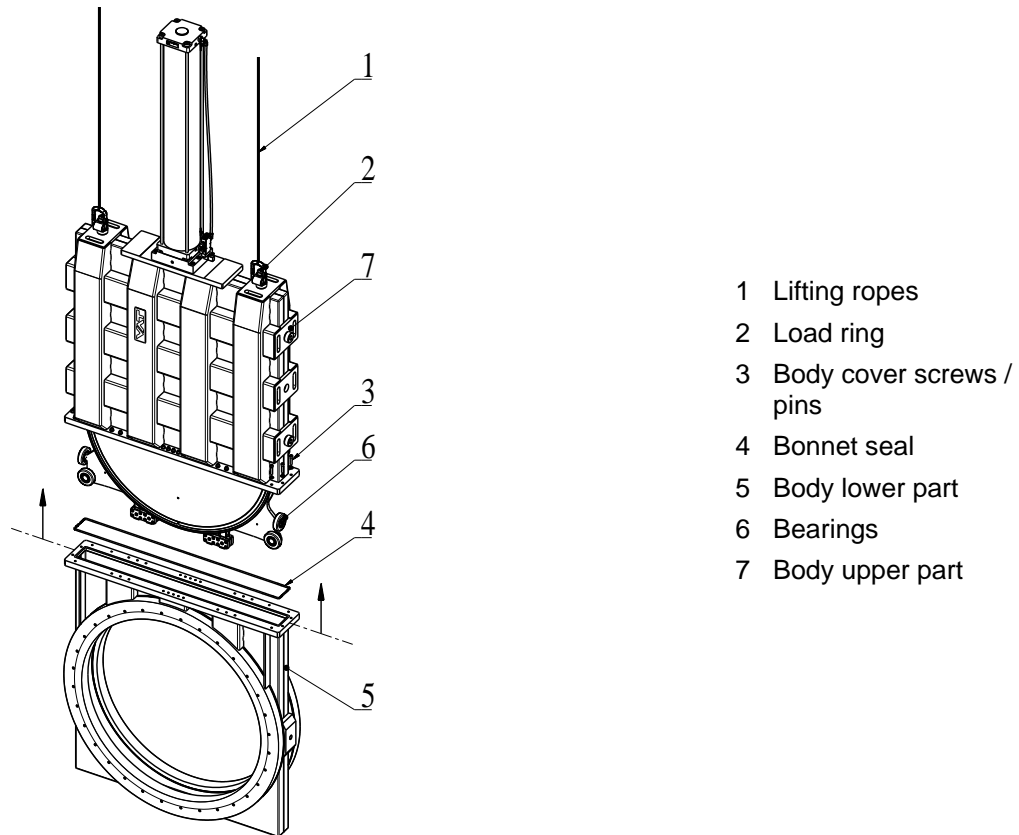

Figure 6-1
4. Remove the screws (3) from the body upper part (7) in crosswise order; see «Figure 6-1» on page 16.